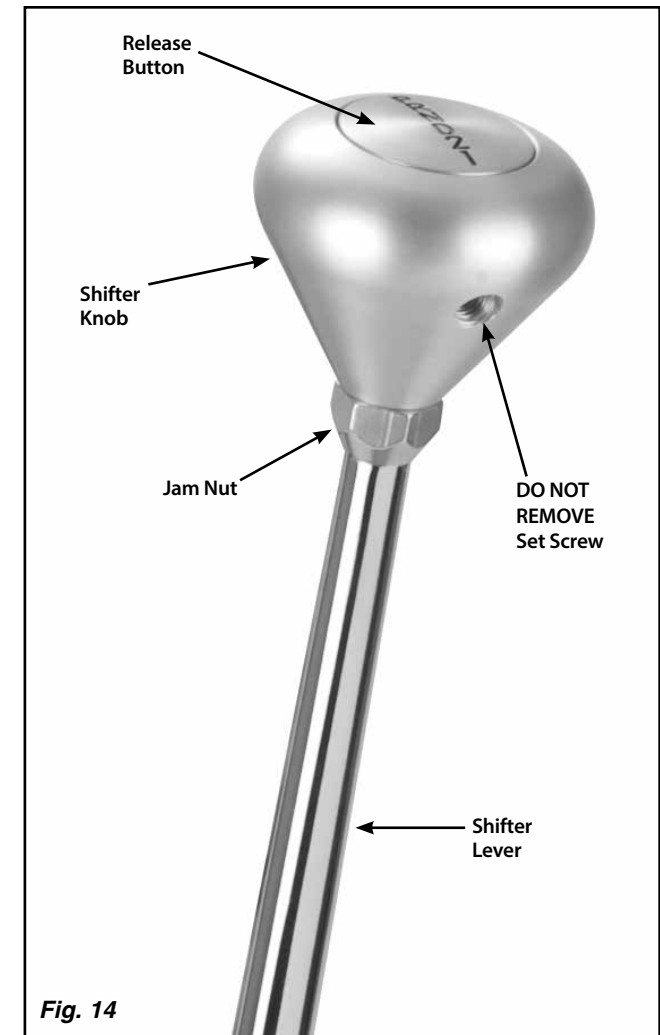

Fig. 14
- Step 2:** Loosen the jam nut below the shifter knob. **DO NOT** loosen or remove the set screw that is in the knob. **Fig. 14**